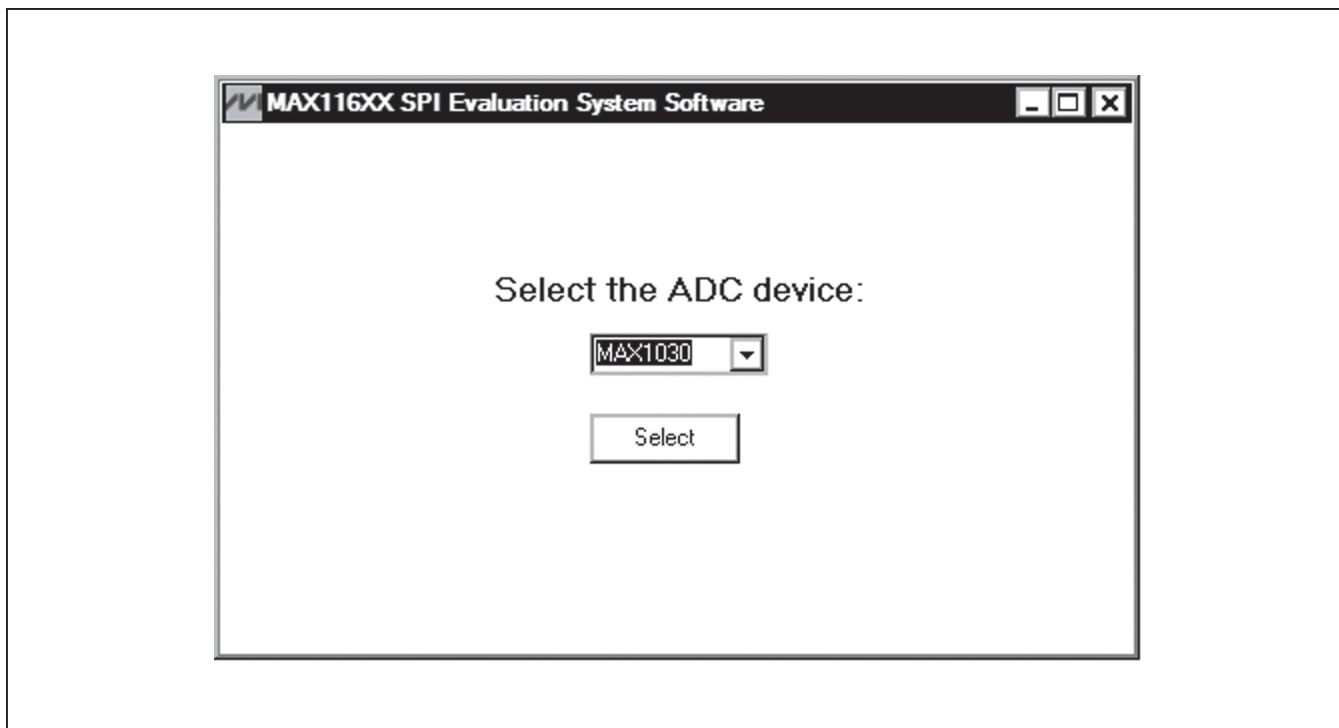
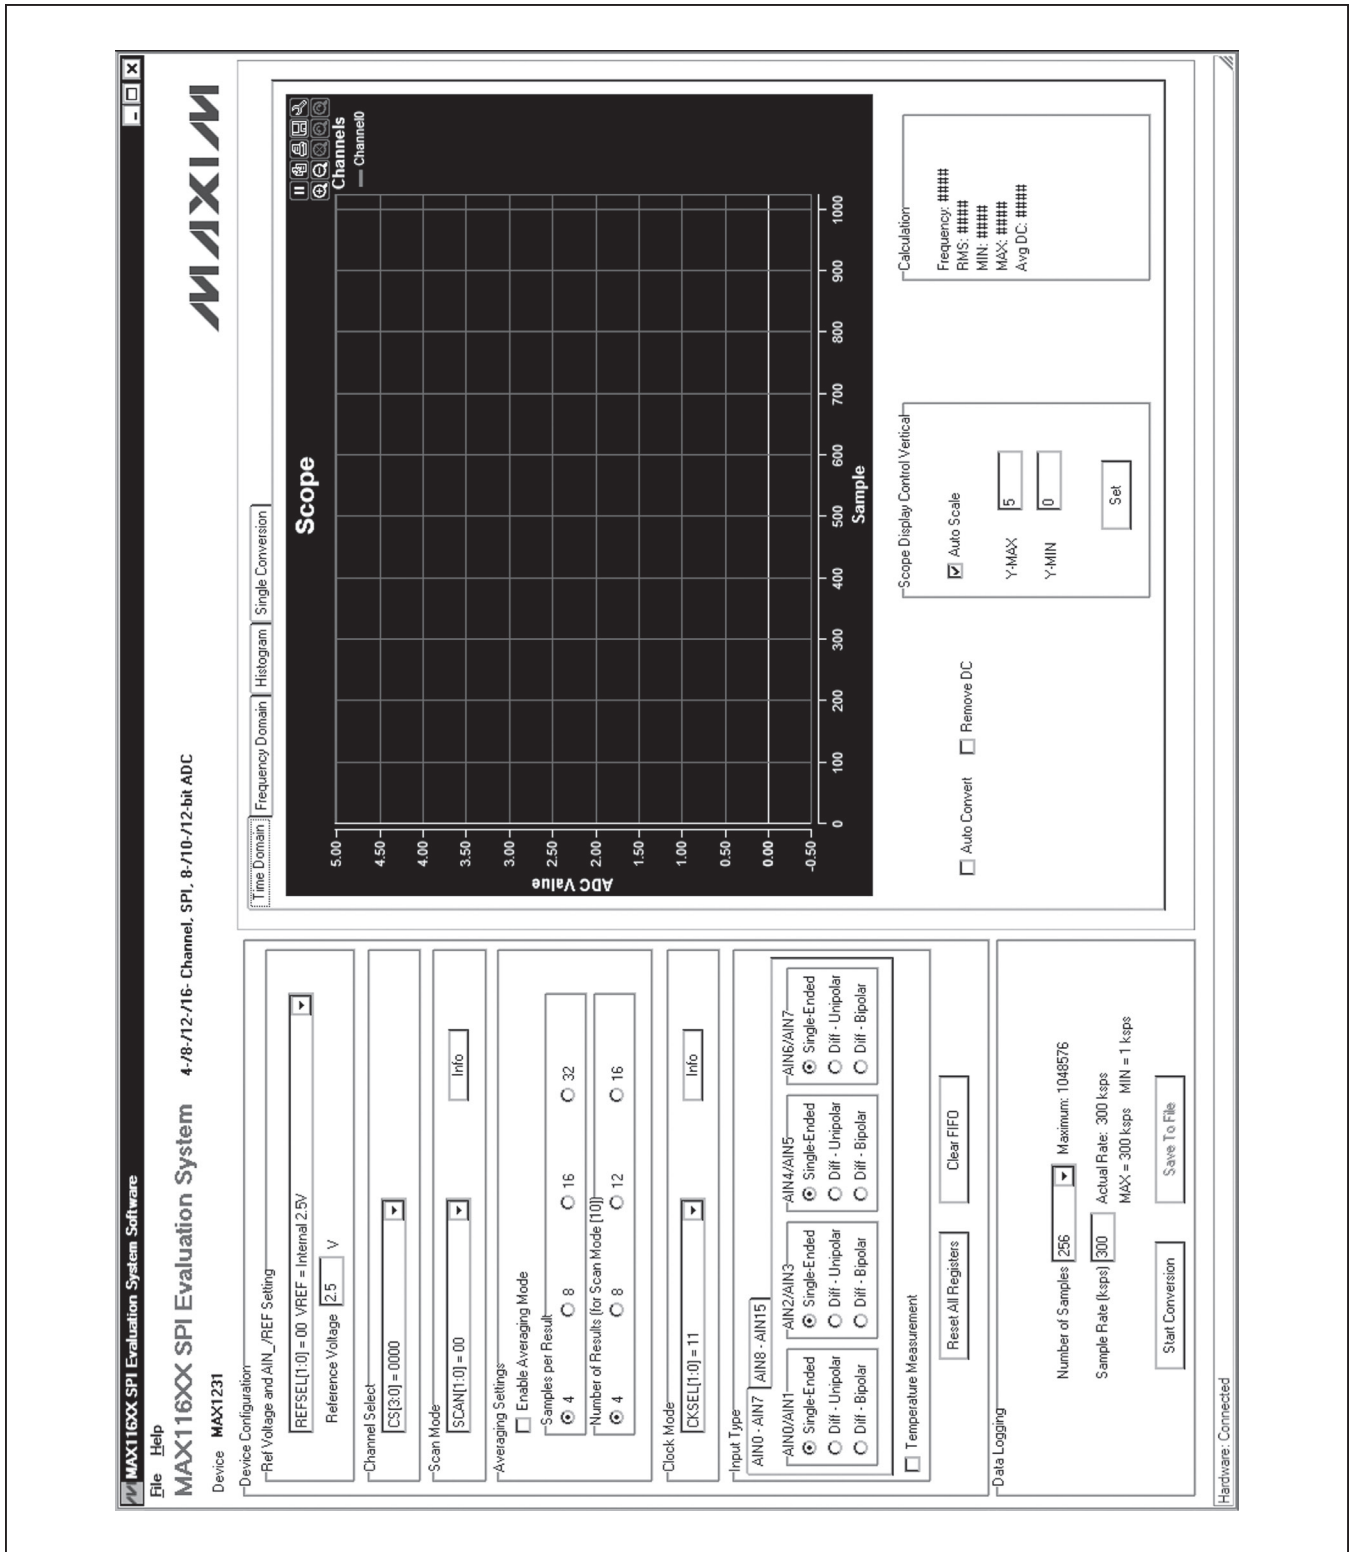

Figure 2. MAX116XX SPI EV System Software Device Selection Window
Figure 3. MAX116XX SPI EV System Software Main Window
- 8) Start the MAX116XX SPI EV system software by opening its icon in the **Start | Programs** menu. The EV system software device selection window appears, as shown in Figure 2. Select the appropriate device from the **Select the ADC device** drop-down list. The EV system software main window appears, as shown in Figure 3.
The MAX116XX SPI EV system software supports the MAX1231/MAX11633/MAX11635 family of ADC devices. When the EV system software starts up, select the appropriate device from the **Select the ADC device** drop-down list shown in Figure 2. Press the **Select** button to bring up the main software window.
The main window of the evaluation software (Figure 3) contains a **Device Configuration** group box, a **Data Logging** group box, and four tab sheets to display the sampled data.